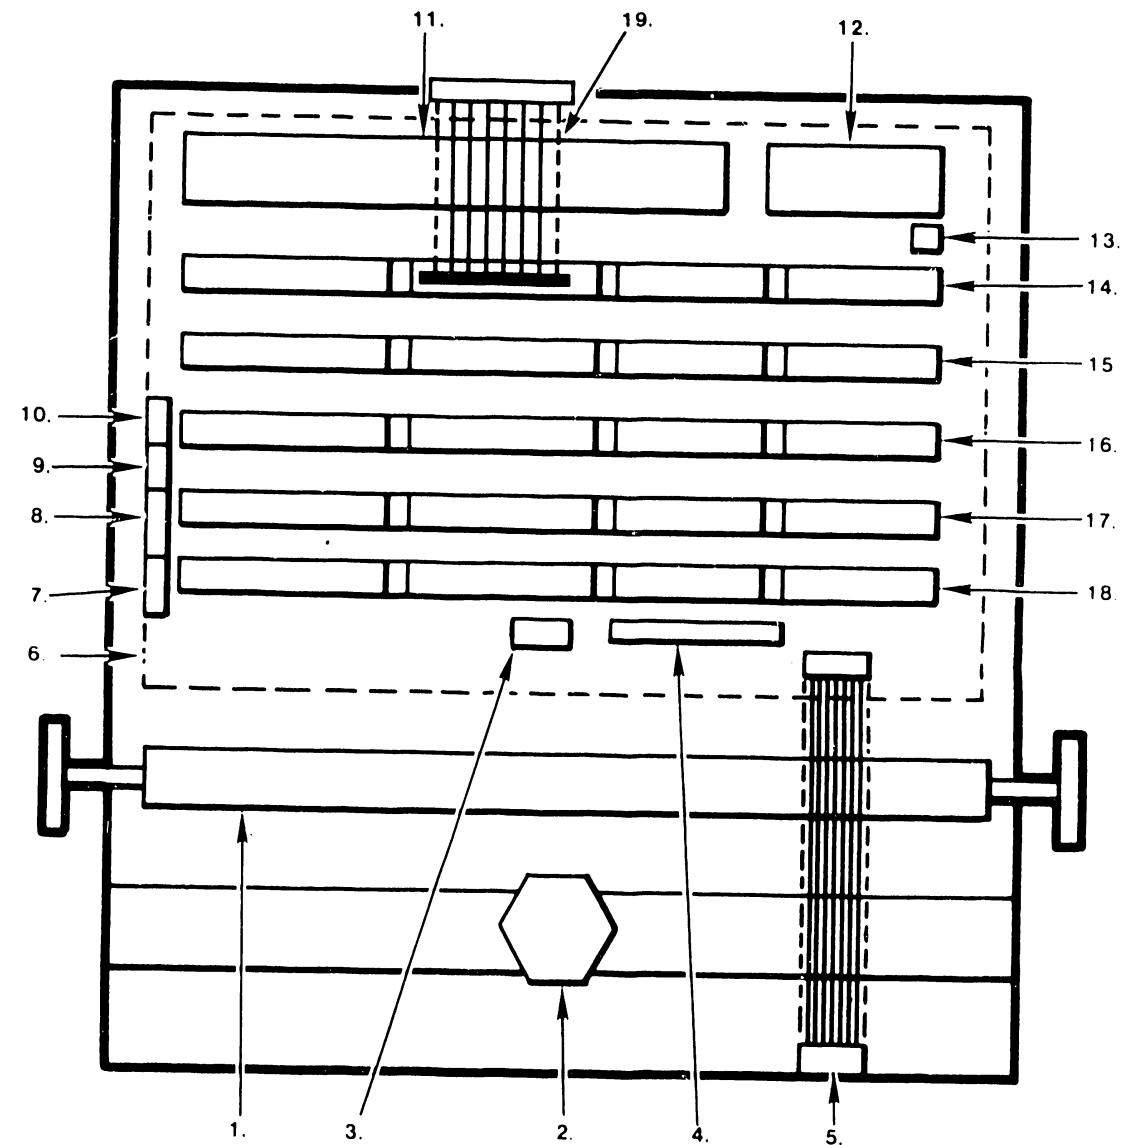

FIGURE 1-2 WANG DAISY PRINTERS PCB AND CONNECTOR CONFIGURATION
Table 1-1 lists the chassis, PCB's and cables used in the printers for various system configurations. Figure 1-2 shows the printed circuit board locations for the different system configurations.
Only one motherboard (WPN 210-7462) is used in all versions of the Wang Daisy Printer. BNC and TNC connectors are standard on all motherboards. For parallel I/O cable interfacing (5541W/WC), a female cable (WPN 220-3069) is mounted to the chassis then internally connected to the top of interface PCA 210-7449 or 210-7449-1 as shown in 19, Figure 1-2. For the 2200 system using 7443-1B, 7309A or 7726A PCB's an I/O cable (WPN 220-0161) is inserted into the right most connector of the memory slot (nearest the fan), routed to the right and then in front of the ON/OFF switch, along the rear panel and out through the cutout in the rear panel to the system as shown below:
6. Check that the required PCB's are installed in the appropriate locations as listed in Table 1-1 and shown in Figure 1-2.
* SEE FIGURE 1-2 FOR PCB LOCATIONS. KEEP HANDS AWAY               *